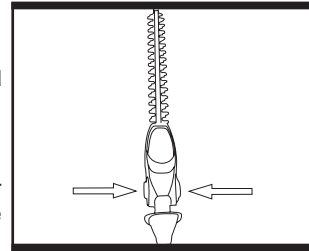

Fig. 4a
1). Push lock-off buttons (2) on the left and right of the trimming head. (See Fig. 4a).